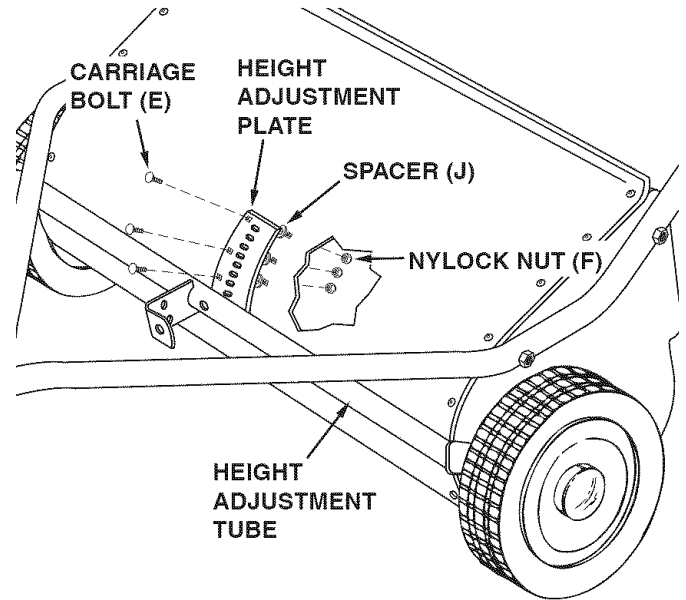

FIGURE 5
- Attach the height adjustment plate to the sweeper housing using three carriage bolts (E), spacers (J) (placed between plate and housing) and nylock nuts (F). See figure 5.